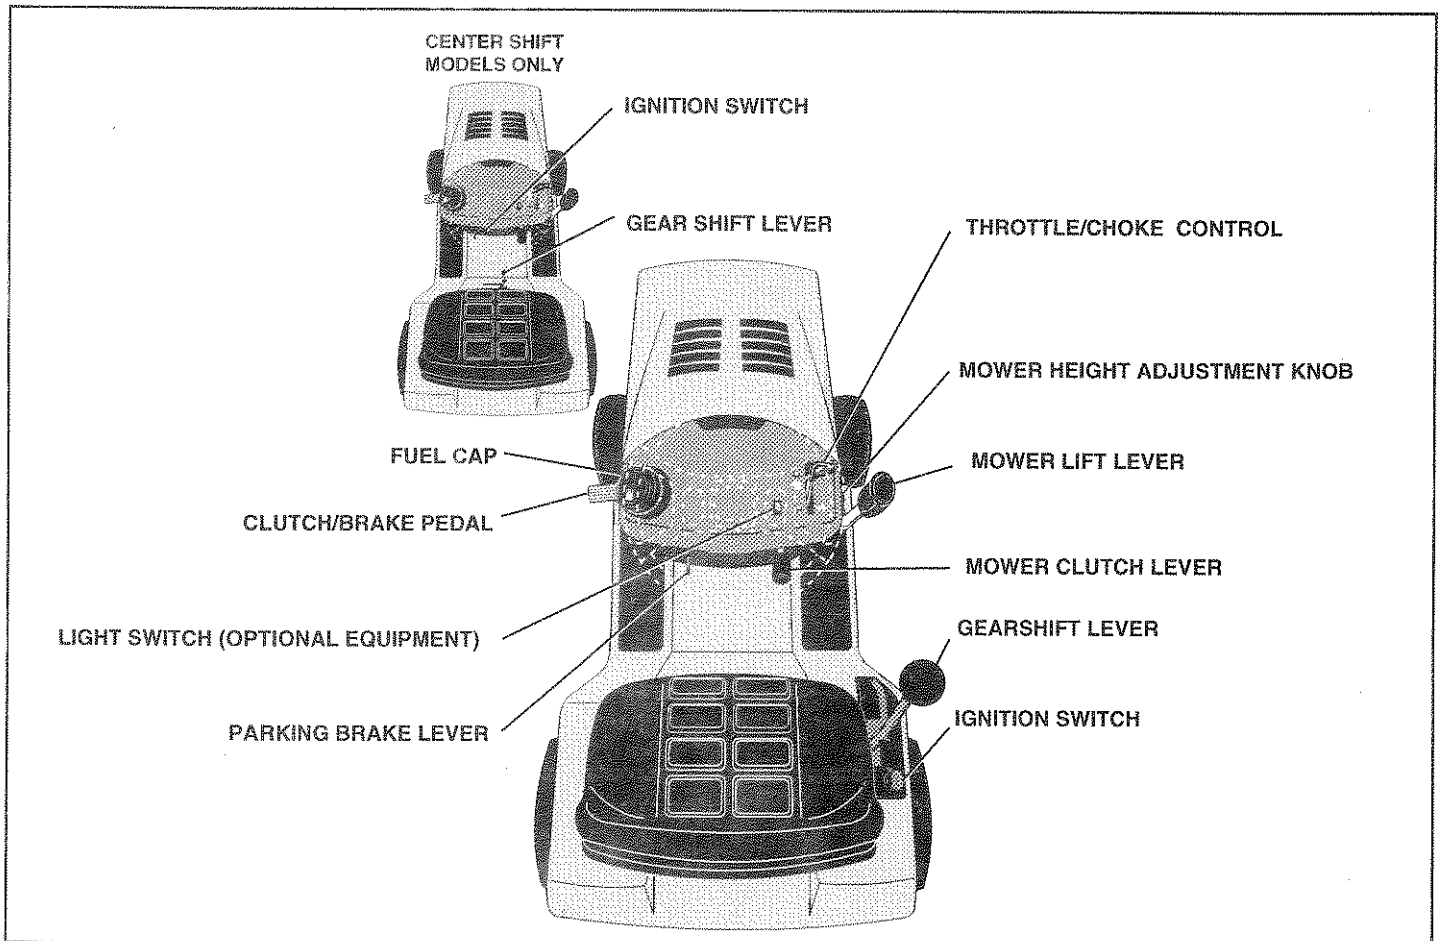

FIG. 7
TO ROLL UNIT OFF SKID (See Fig. 7)
- Slide seat until a comfortable position is reached which allows you to press clutch/brake pedal all the way down (See Fig. 7).
TO START ENGINE (See Fig. 7)